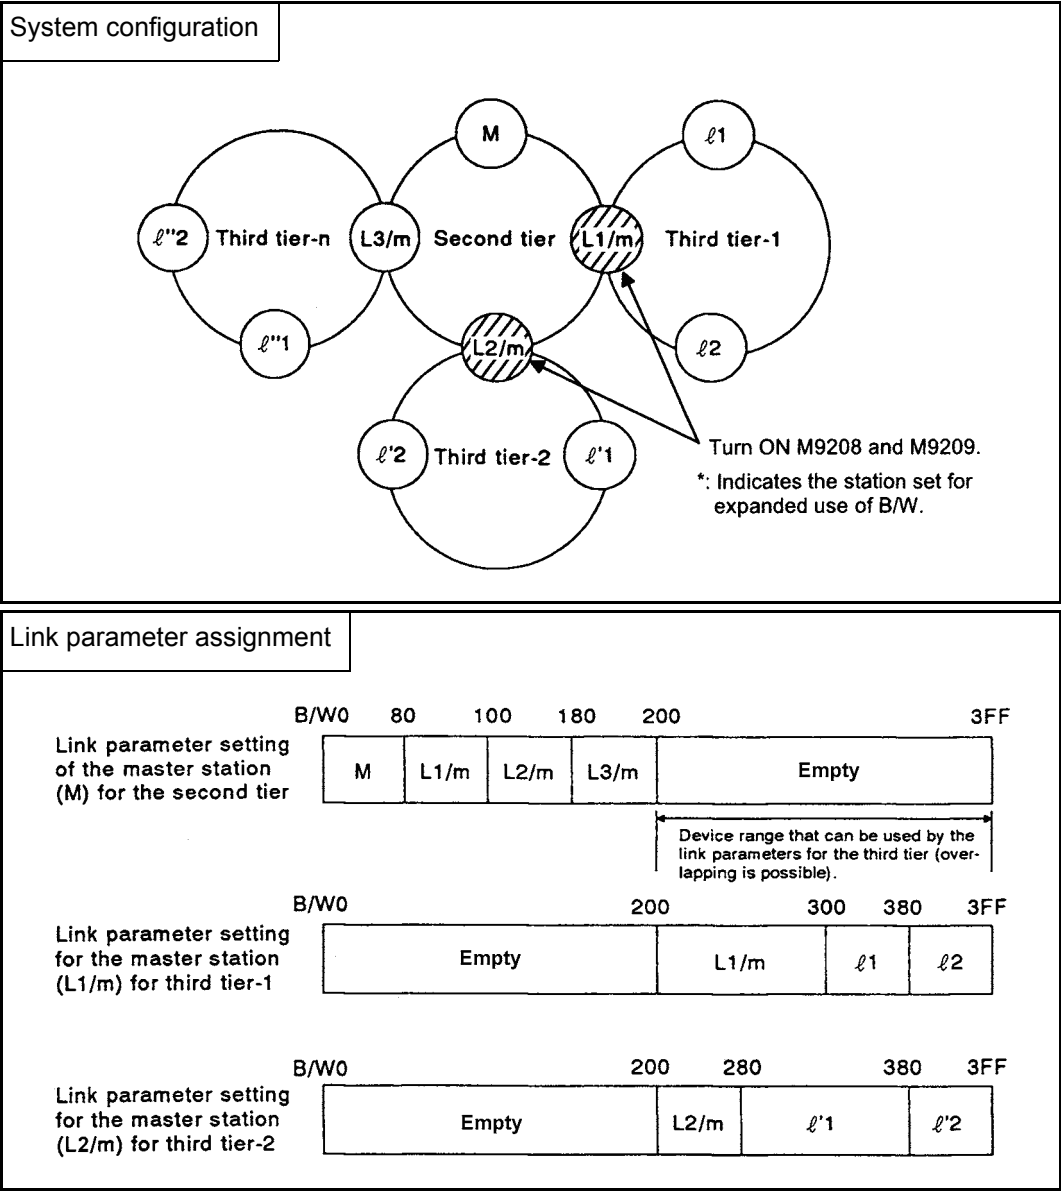

Fig 5.8 Expanded use example of link relay (B) and link register (W)
In a system with two or more master stations for the third tier as illustrated in Fig 5.8, when the link relay and link register exceeds the above-mentioned points, they can be expanded. In this case, the communication range that can be used is different from the communication range that can be used without expanding the range.
- (2) Expanded link relay (B) and link register (W) range
- The device range that is not assigned to the link parameters for the second tier can be assigned to the link parameters for the third tier (third tier-1, third tier-2, ... third tier-n). For this assignment, the same range can be assigned to different data link. For example, when 512 points of B/W0 to 1FF are used for the second tier as illustrated in Fig 5.8, the device range of B/W200 to 3FF can be redundantly assigned to the third-tier-1 link and also to the third-tier-2 link.
- (3) Data communication range with expanded link relays (B) and link registers (W)
- (a) Link relays (B) and link registers (W) used by the two-tier link cannot be used for sending data to the local stations connected to any of the third-tier links. They can be used to send data to the master stations (L1/m, L2/m, ..., Ln/m) for the third tiers. This is because these master stations execute communication with the master station for the second tier as local stations for the second tier.
The expanded link relay (B) and link register (W) device range that can be used for communication in the system configuration in Fig 5.8 is shown in Table 5.3.